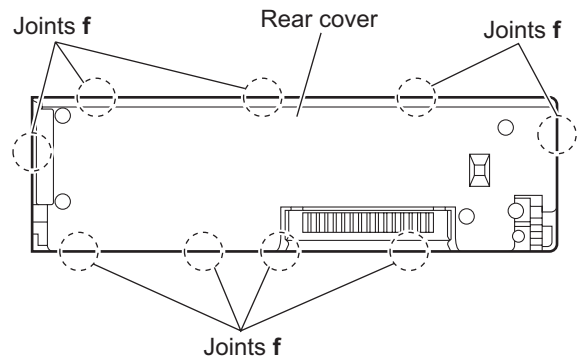

Fig.10
- Release the joints **f** and remove the rear cover. (See Fig.10.)